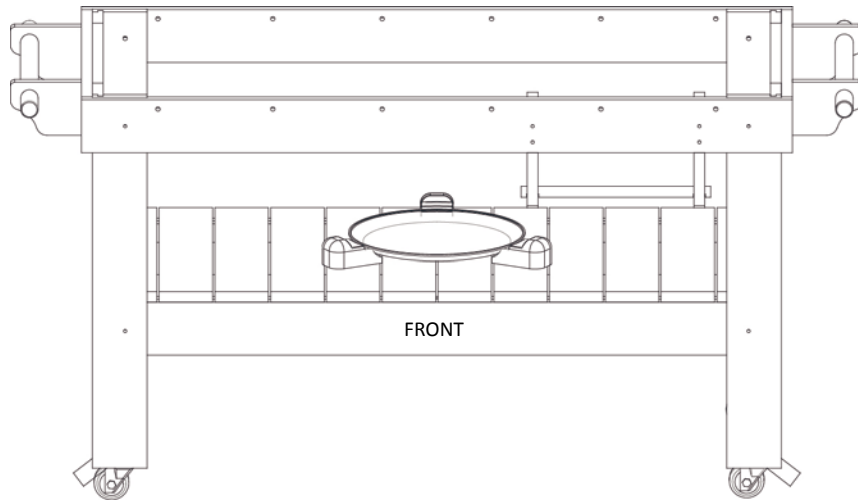

Figure 10
**STEP 3** Place the three ceramic grill feet on the bottom shelf of the grill table to form a triangles  $\triangle$  with the top being the back of the grill table. The other two feet should be placed just to the left and right of the bottom vent door. Place the Heat Shield pan over the three ceramic grill feet. (See Figure 10)